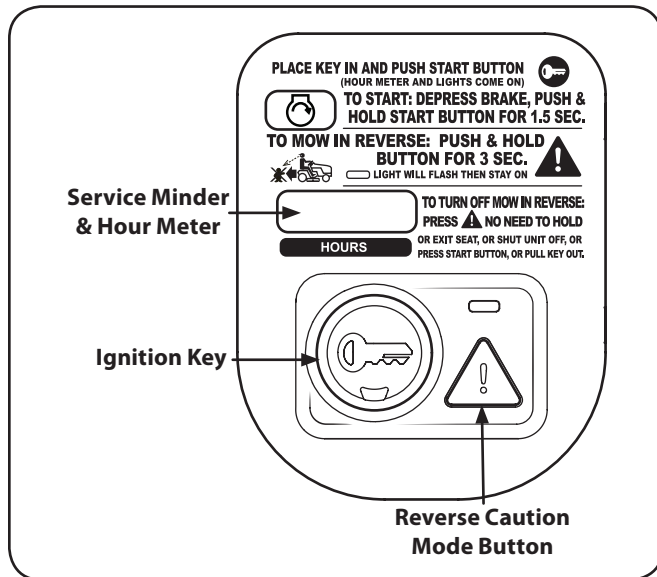

Figure 5-1
2. Press the REVERSE CAUTION MODE  button and hold for 3 seconds. The indicator light will flash for 3 seconds and will stay on when the REVERSE CAUTION MODE is activated. See Figure 5-1.
3. The indicator light above the REVERSE CAUTION MODE  button will be ON while activated. See Figure 5-1.